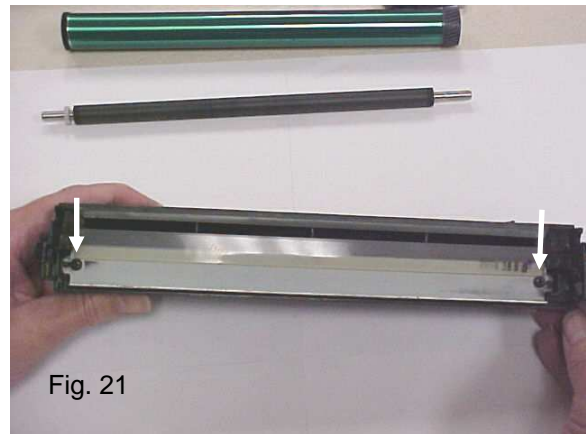

Fig. 21
21. Remove the two screws that hold the wiper blade with a Phillips screwdriver. Clean the wiper blade with compressed air and vacuum (Fig. 21).